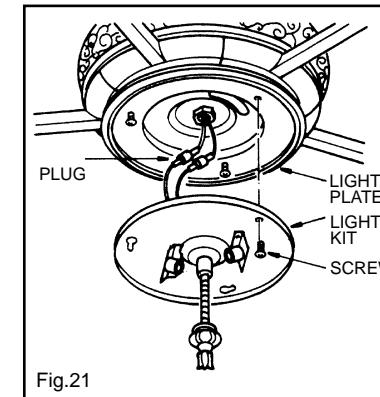

Fig.21
**Step 1.** Remove one of the three screws from the light plate and loosen the other two (do not remove). Plug the 2 wires from the fan to the two wires from the light kit. (Fig. 21)
**Step 2.** Place the light kit over the two screws previously loosened (use the two key-holes from the light kit) and turn until it locks into place. Install the 3rd screw previously removed and securely tighten all three screws. (Fig. 21)